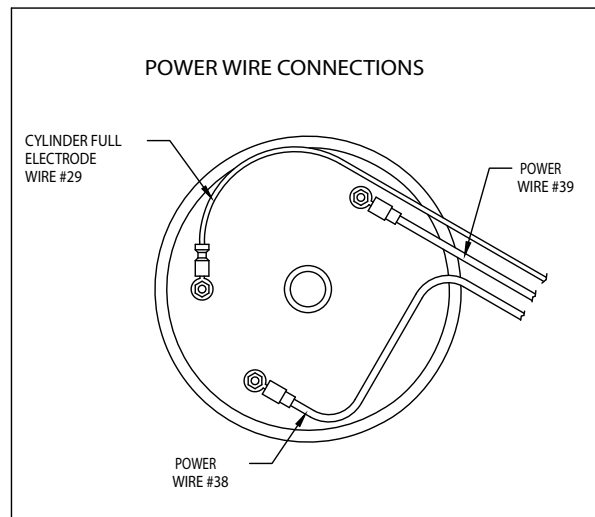

Figure 6B
2. Turn off power to the unit at the external disconnect. Disconnect electrode power wires (#38 & #39) and cylinder full electrode wire (#29) from the cylinder. These connections are 1/4" quick connects. (See Figure 6B, 6C, & 6D.)
8. Reconnect electrode power wires (#38 & #39) and cylinder full electrode, wire (#29). Make sure that all electrical connections are securely tightened. (See Figures 6B, 6C, & 6D.)